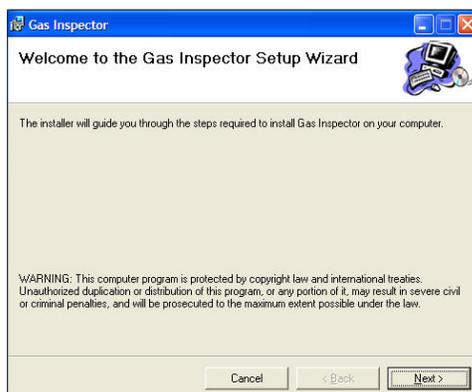

Figure 6—Welcome Window
- Click *Next* on the Welcome window (Figure 6).